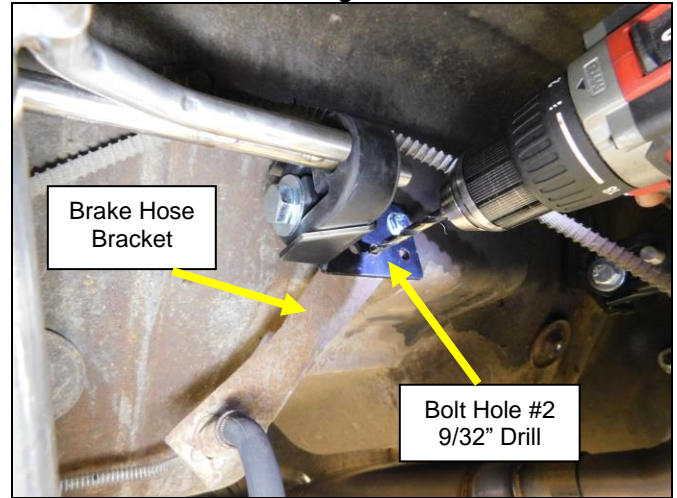

Figure 7
9. Use a 9/32 drill bit and drill a hole in the brake line bracket only. Use bolt hole position #2 as a guide as shown in **Figure 7**.